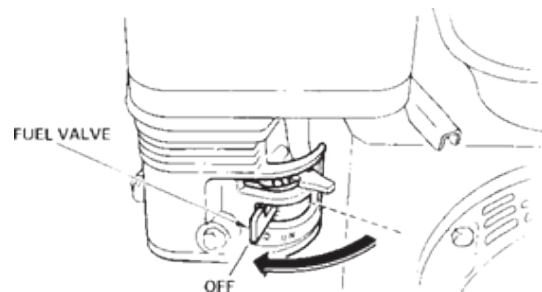

FIGURE 13
10.3 Close the fuel shut-off valve (Figure 13) by moving the fuel valve lever to the OFF position.